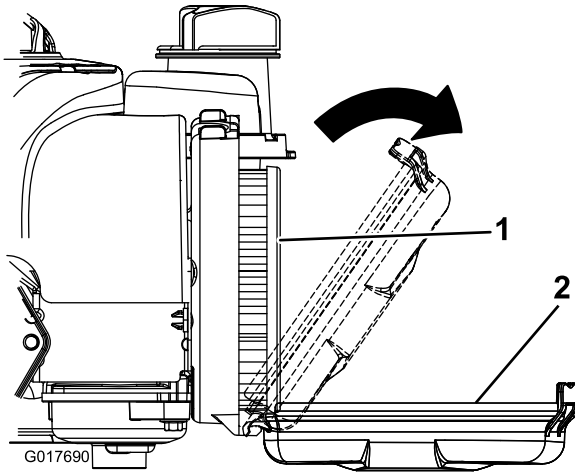

Figure 17
1. Undo the latches that hold the air filter cover to the engine (Figure 17).